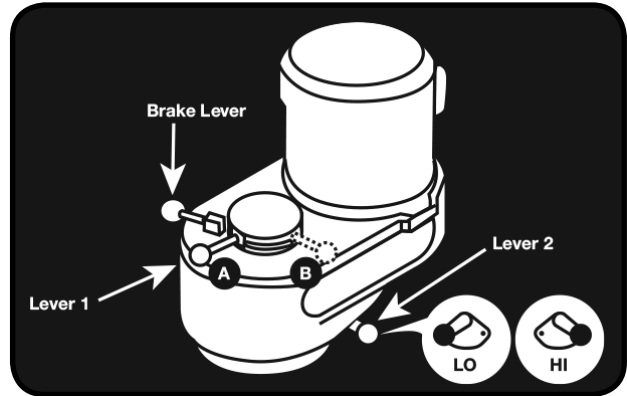

Fig. 4.4
4. Lever 1 is shown in Fig. 4.4 in the HIGH or LOW position
**NOTE:** If this step was not successful, use HIGH/LOW range lever (Lever 2 Fig. 4.4) to reset speed range, then repeat this step until you are certain that spindle is seated into spindle clutch.